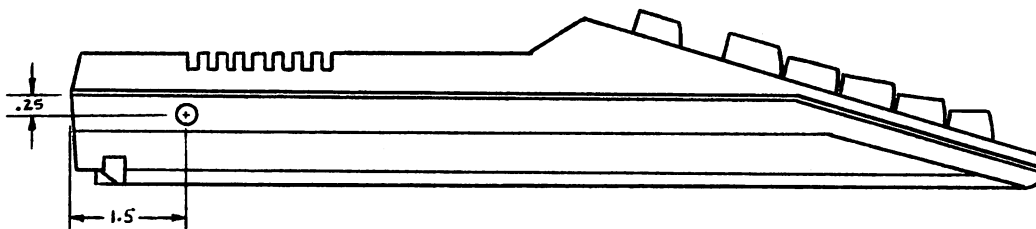

Figure 4 **SUGGESTED SWITCH LOCATION**
20. Drill a 1/4" hole in the lower case assembly of the computer for the Kernal Selector Switch. A suggested location for the switch is given below in Figure 4.